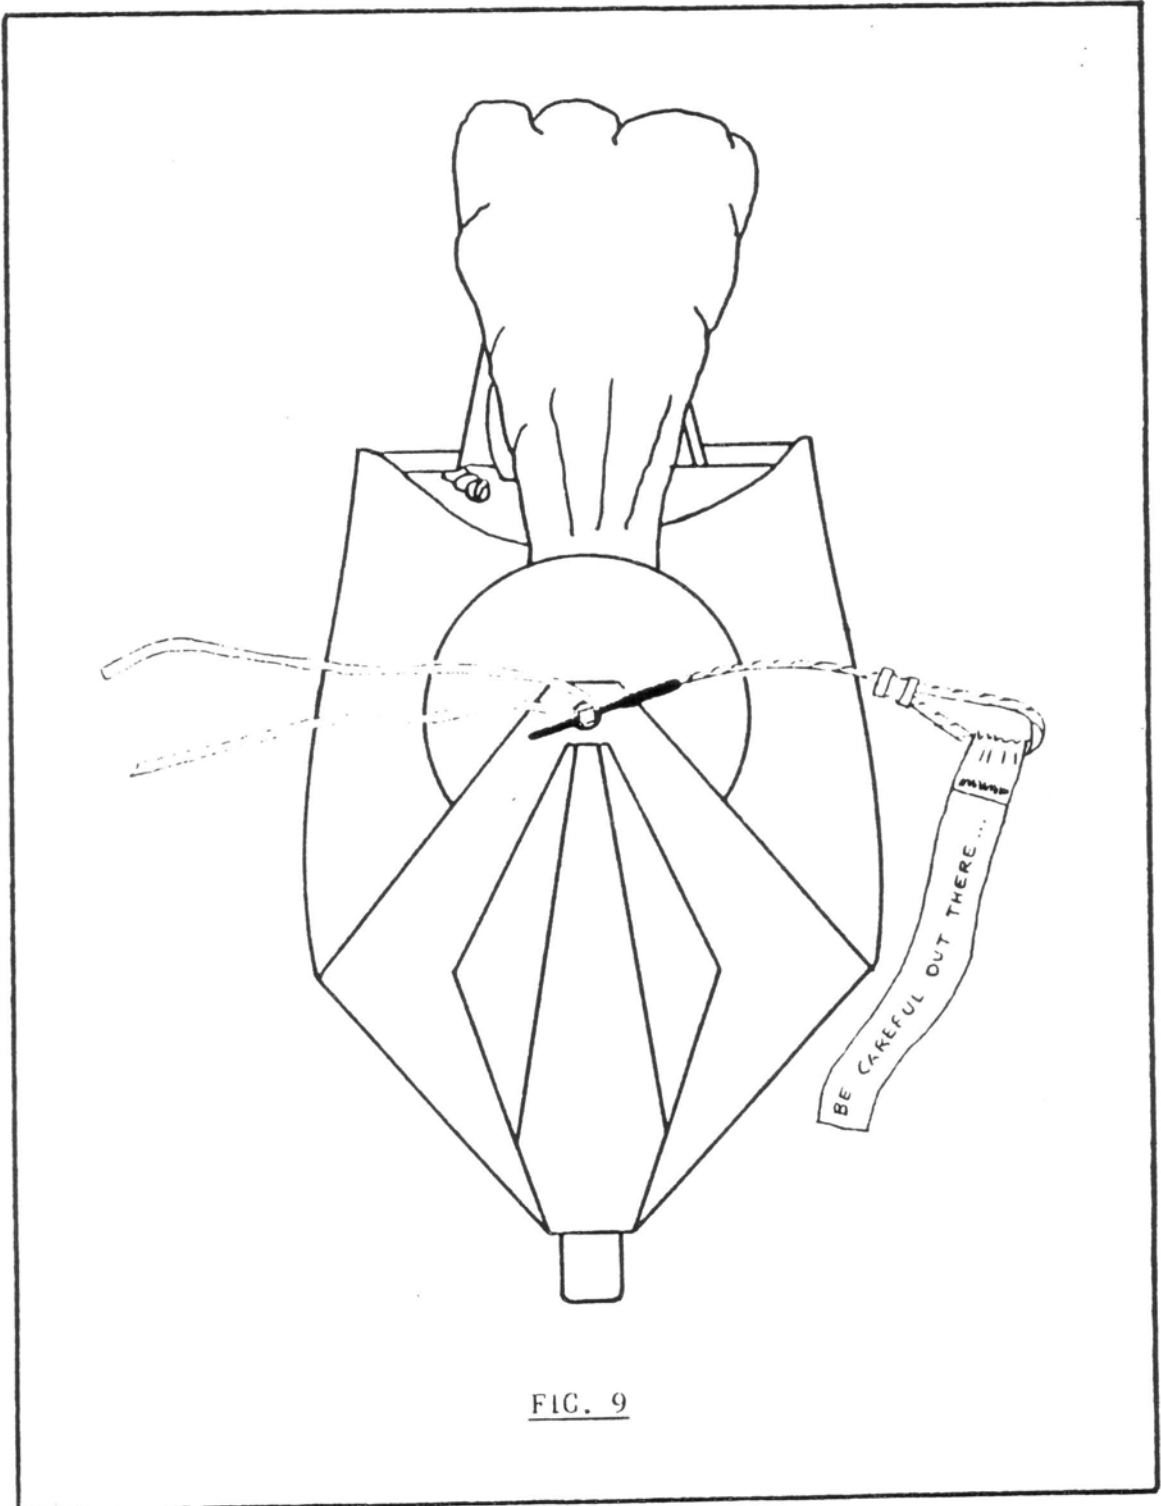

FIG. 9
- 11) Part of the lower half of the pilot chute which now extends downward can be tucked under the top plate (but not so much as to cause the top plate to tilt forward). The rest should be arranged in a loose fold or roll and laid on top of the folded bridle. Close the bottom flap and secure it with the temporary pin. (FIG. 9).